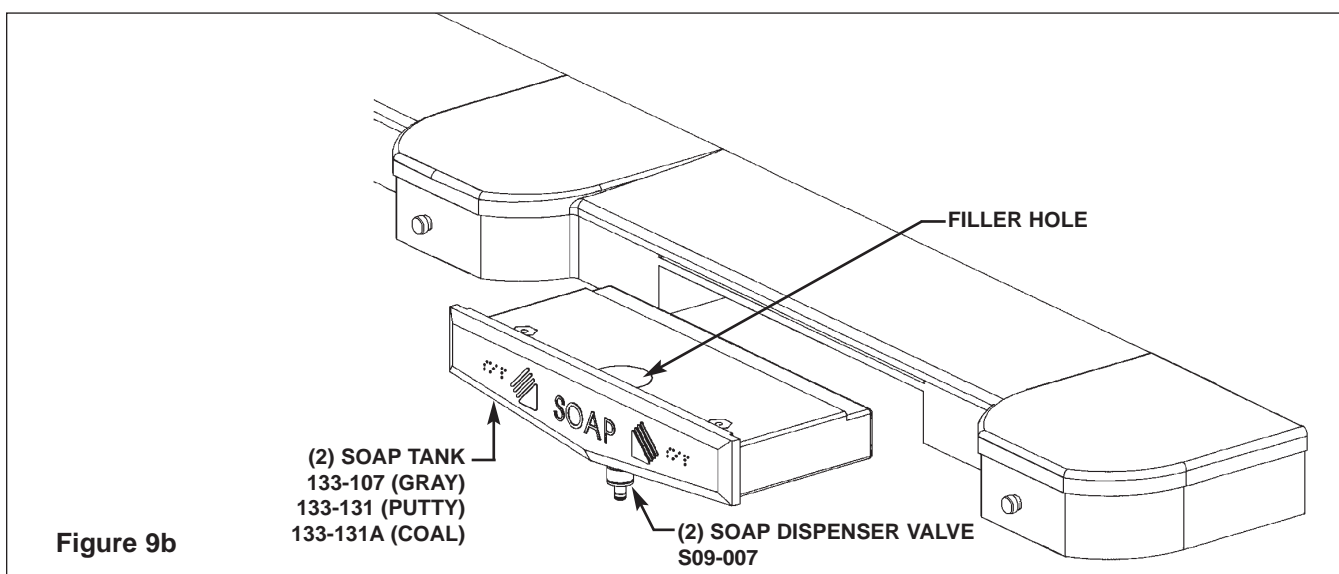

Figure 9b
3. Pour the soap into each soap tank's filler hole (see Figure 9b).